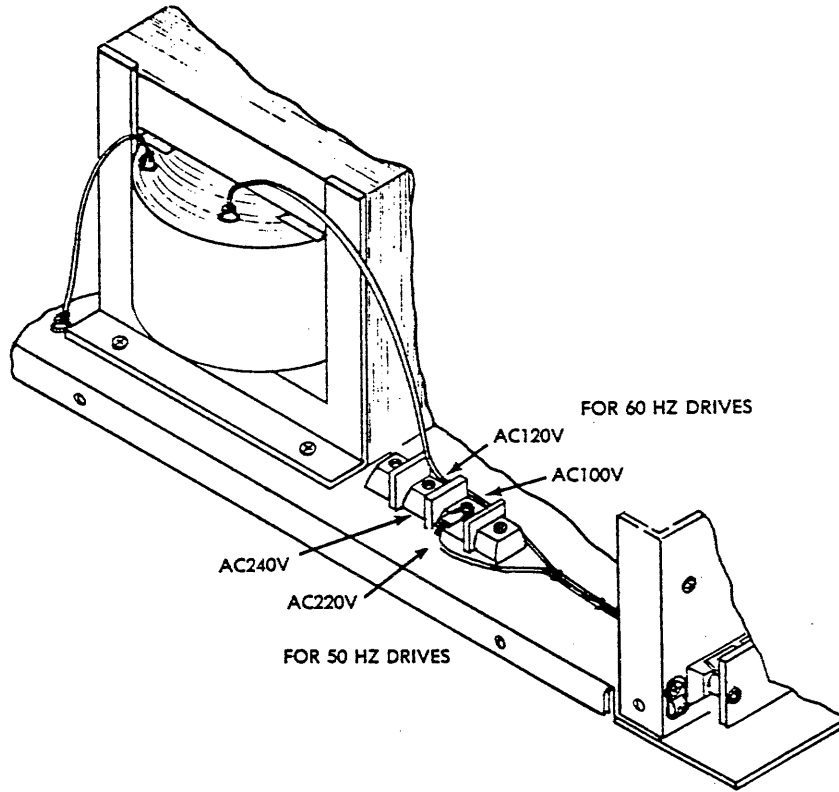

Figure 7-1. 9798 AC Voltage Selection
- b. On the right side of the transformer there is a small terminal strip labeled INPUT. A white wire that is fastened to the terminal strip by a screw can be positioned in one of two locations labeled AC120V and AC100V (see Figure 7-1).